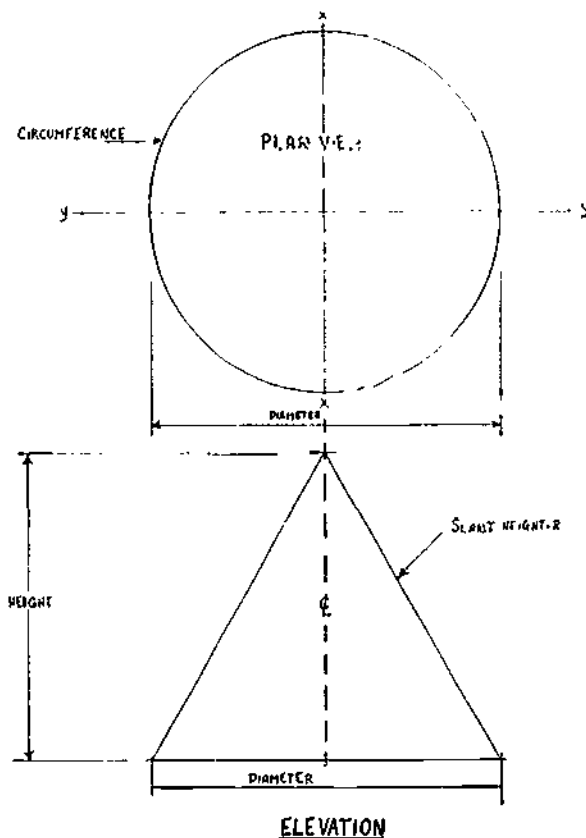

Figure 5-38. Description of Right Circular Cone
**Required Views** The right circular cone as a geometric shape is completely described when elevation (front) and plan (top) views are shown (Figure 5-38). Dimensions for height and diameter are set out on the elevation. The plan view shows the circumference.